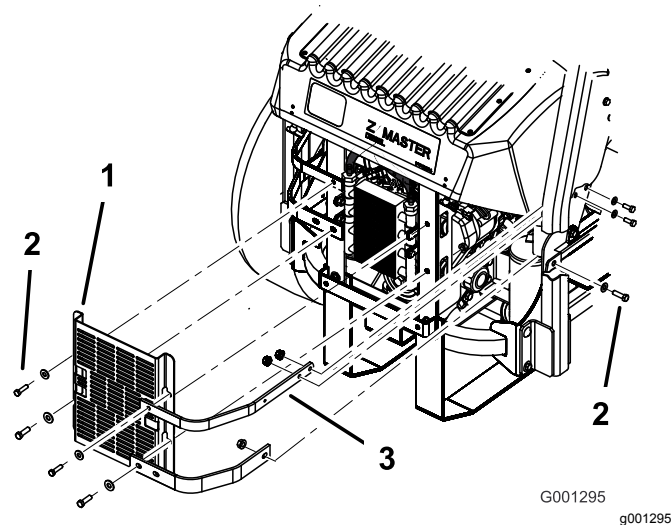

Figure 81
3. Remove the 4 bolts holding the oil cooler shield to the rear frame (Figure 81).
4. Remove the 3 bolts holding the engine straps to the side of the machine (Figure 81).
12. Install the oil cooler shield and engine straps to the rear frame with the 4 bolts previously removed (Figure 81).
13. Install the engine straps to the side of the machine (Figure 81).